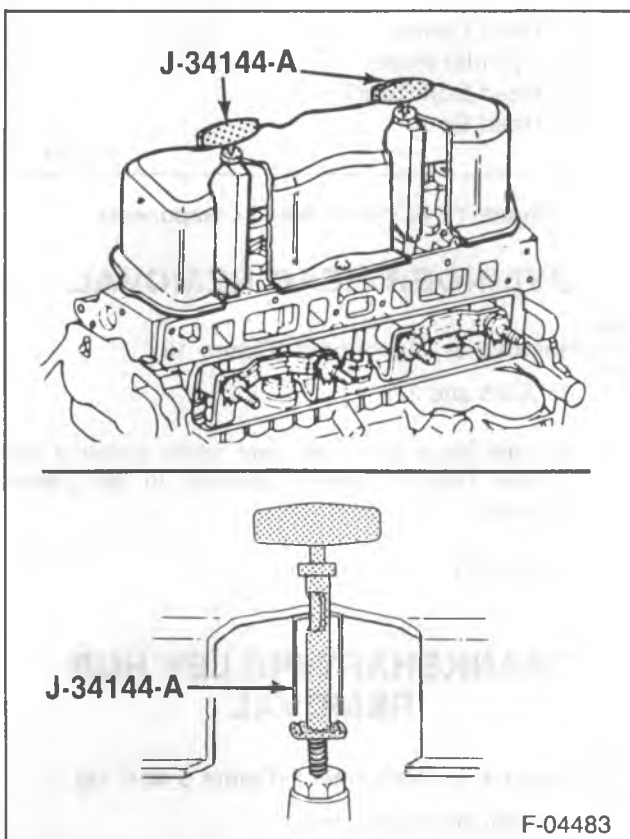
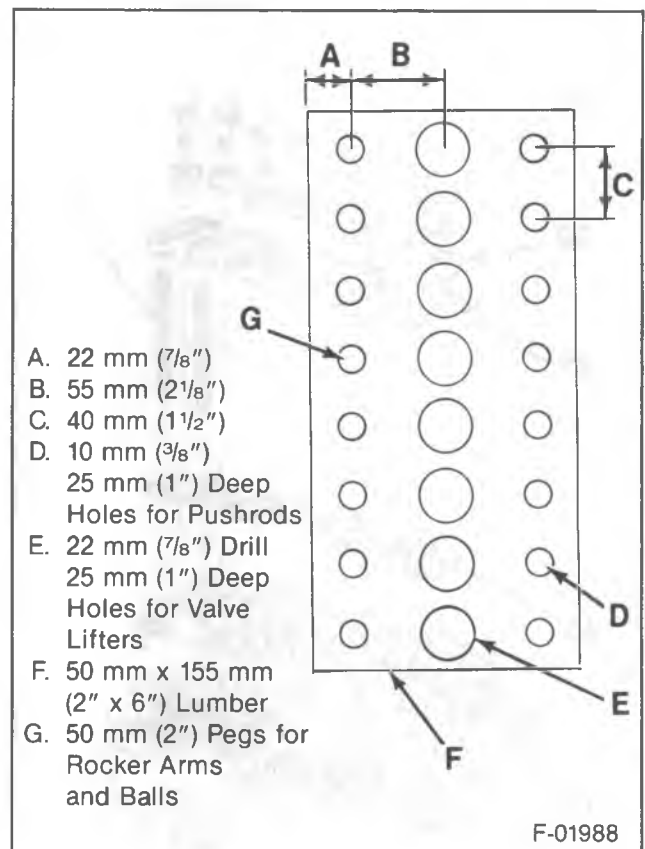

Figure 9—Removing the Rocker Arm Cover
Figure 10—Valve Train Component Rack
2. Rocker arm cover. Use J 34144-A (figure 9).
3. Bolts (31), balls (32), rocker arms (33), pushrods (47) and pushrod guides (45).
- Every effort should be made to insure that these mating parts are installed in their original locations during assembly. A simple valve train component organizer rack can be made from a piece of wood, as shown in figure 10.
4. Pushrod cover nuts, studs, and the cover (50).
5. Retainers (123).
6. Hydraulic lifter guides (122).